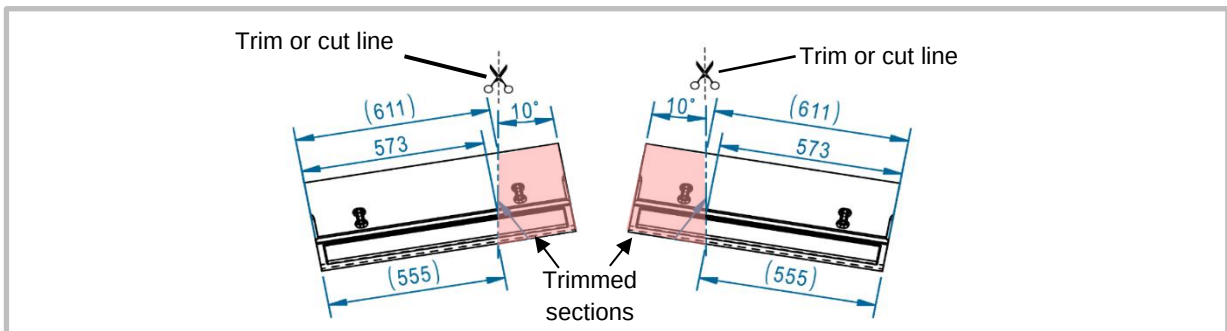

Figure 1 Example of the trim length of Half Arrow products as specified in a lip layout drawing example SL1065.
- 11.1.1. Mark the workpieces that require trimming with a trim or cut line (see Figure 1) to suit part placement as indicated by either the lip layout drawing or measured from the bucket lip assembly.